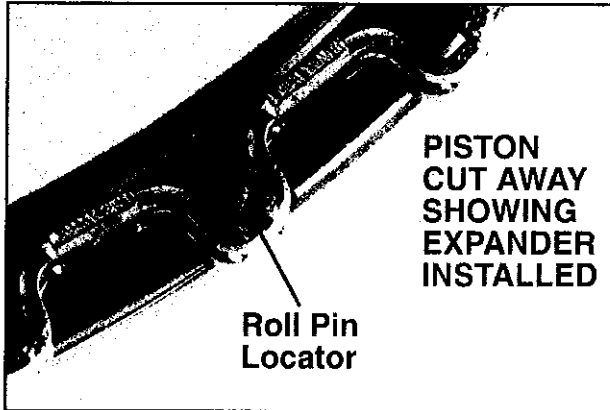

Figure 4
**Note** that the oil ring expander does not need to be positively located, it only needs to provide clearance for the roll pin (fig. 4). Be sure the top oil ring rail is free to rotate on the piston.